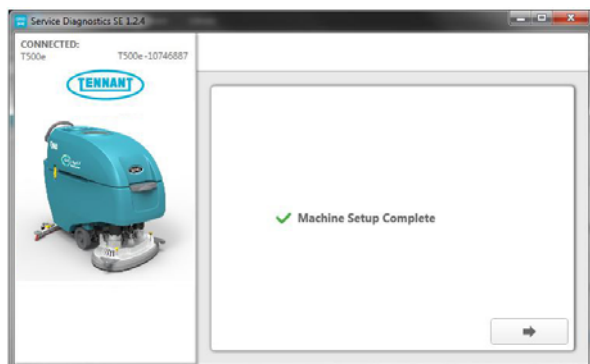

Fig. 10
9. The following screen will appear when the process has completed (Figure 10). Press the arrow button to return to the Home Screen. Disconnect the USB cable from the machine and turn key off. The machine is now ready for operation.